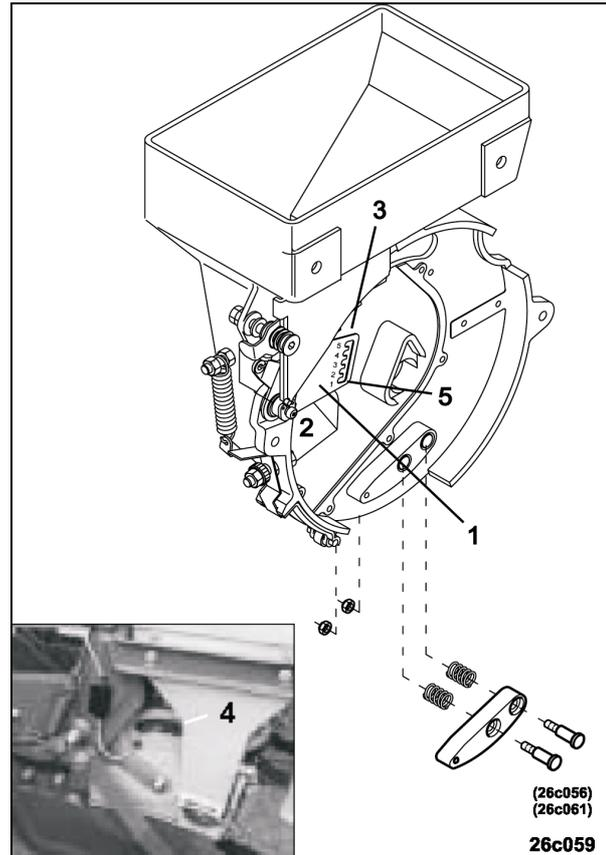

Fig. 69
The position of the reduction flap (Fig. 69/1) determines the cross section of the seed inlet opening (Fig. 69/2) from the seed hopper to the seed housing. Take the correct reduction flap position from table (Fig. 70). By the factory the reduction flap has been set to position "2".
The reduction flap positions 1 – 5 can be set. The embossings (Fig. 69/3) indicate the individual reduction flap positions.
If the seed is nevertheless visible in the sight window (Fig. 69/4) the seed housing is filled in a not permissible way. This results in an overflow of the seed housing and thus in an inaccurate seed application.
In this case, reduce the seed delivery to the seed housing with the aid of the reduction flap (Fig. 69/1) as follows:
- Slacken bolts (Fig. 69/5)
If in spite of the very large seed inlet opening the seed does not flow properly, readjust the reduction flap (Fig. 69/1) upwards until only the contour of the aluminium housing limits the seed flow.